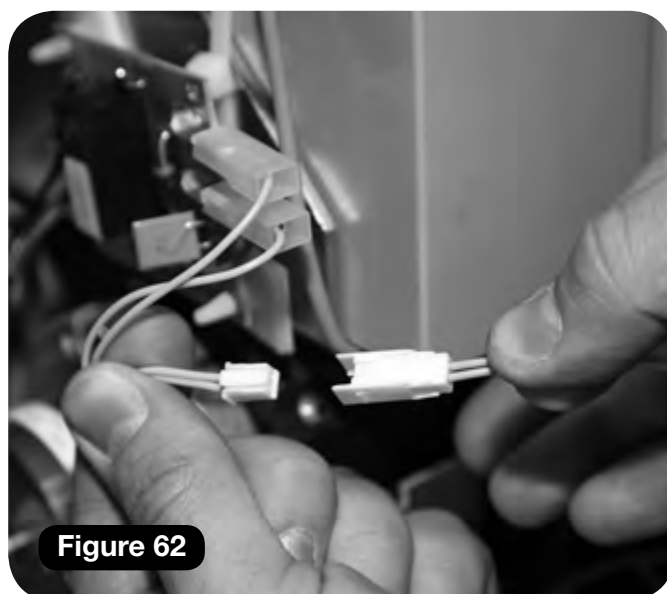

Figure 62
- Connect the powered footplate looms (twin yellow) **(Figure 62)**.